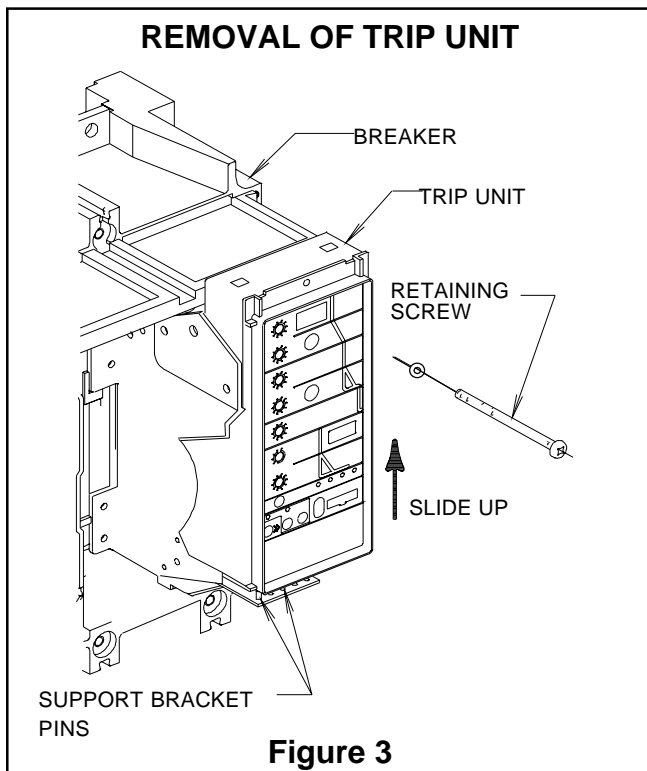

Figure 3
3. Remove the trip unit retaining screw (See Figure 3, Page 3).
4. Slide the trip unit up to clear the support bracket pins (See Figure 3, Page 3).